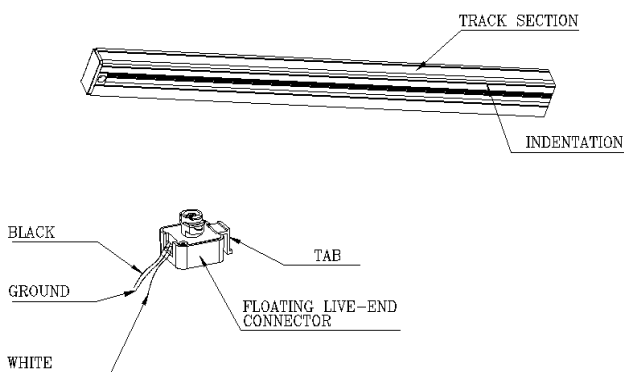

Fig. 2
1. The track section and floating live end connector must be assembled so that polarity between conductors is maintained. NOTE: The floating live-end connector has a tab on one side of the track has indentation which runs the length of the track channel (Refer to Fig.2). Align the floating live-end connector tab with the track indentation and insert the floating live-end connector into the track channel so that the base of connector fits flush against the track twist connector clockwise 1/4 (one quarter) turn so that the connector fits snugly against the track.